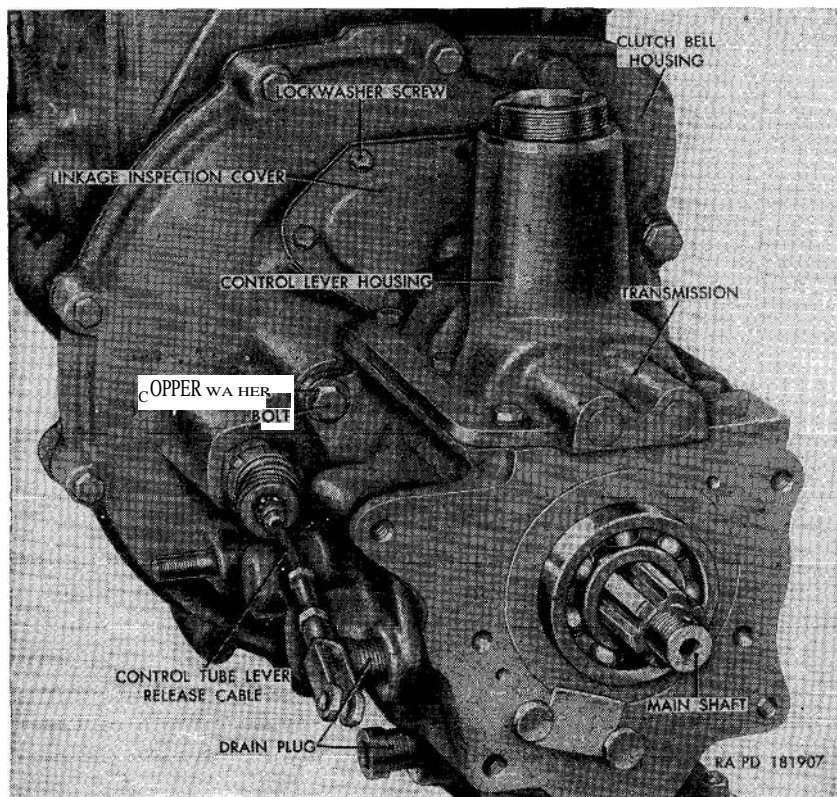
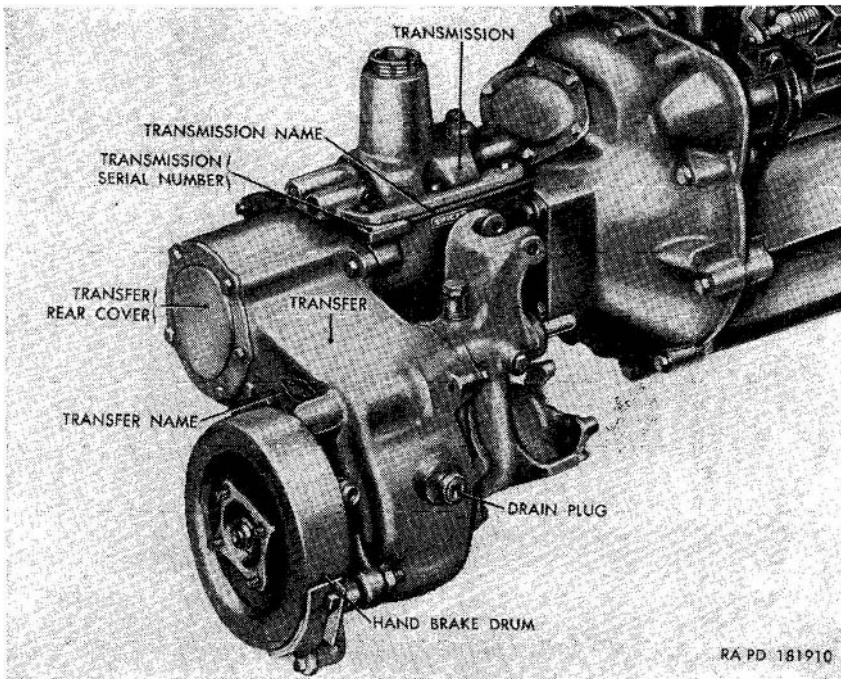

Figure 123. Transmission rear view, transfer removed—power plant removed from vehicle.
Figure 126. Transfer and transmission assemblies installed on engine—power plant removed from vehicle.
a. *Description.* The transmission (fig. 123) is a synchro-mesh, selective-gear-type, with three forward speeds and one reverse. Speed selection is accomplished manually by manipulating the transmission gear shift lever. The lever extends out of the top of the control lever housing into the driver's compartment of the vehicle.
- c. Remove six lockwasher screws securing the linkage inspection covers (fig. 123) to the top of the clutch bell housing. Remove the cover and gasket. Working through the inspection hole, disconnect the control tube lever release cable from the end of the release fork. Disengage the fork from the release bearing carrier and lift the fork out of the clutch compartment. Discard gasket.
- d. While supporting the transmission, remove the four bolts and copper washers (fig. 123) securing the transmission to the clutch bell housing. Pull the transmission straight back until the transmission input shaft is clear of the bell housing.
transmission to the clutch bell housing with four  $\frac{7}{16}$ -inch copper washers and  $\frac{7}{16}$  x  $1\frac{1}{4}$  bolts (fig. 123). Tighten the bolts evenly.
e. Working through the inspection hole in the top of the bell housing, install the release fork so the fork recess engages the bearing cover ball stud, and with the two large ends of the fork behind the release bearing carrier flanges. Engage the control tube lever release cable ball behind the two projections at the small end of the fork. Coat a new linkage inspection cover gasket with plastic-type liquid cement. Place the gasket and the inspection cover in position on top of the clutch ball housing (fig. 123). Secure cover and gasket to bell housing with six  $\frac{1}{4}$  x  $1\frac{1}{2}$  lockwasher screws.
a. *Description.* The transfer is an auxiliary, two-speed gear unit, attached to the rear of the transmission. The transfer transmits power from the transmission to the front and rear differentials through propeller shafts. By manipulation of two transfer gearshift levers (T, fig. 11), additional high and low speed ranges can be selected, and power to the front axle can be connected or disconnected. The hand brake drum (fig. 126) and shoes are mounted on the rear of the transfer. A cover at the rear of the transfer provides access to the interior of the assembly when installing a power takeoff.
- b. Remove the drain plugs from the transmission (fig. 123) and transfer (fig. 126) and permit the lubricant to drain. After draining completely, install the drain plugs.
- c. Remove five bolts and external-teeth lock washers securing the transfer rear cover (fig. 126) to the transfer case. Remove the cover and rear cover gasket. Discard gasket.
e. Coat a new rear cover gasket with plastic type gasket cement and position gasket and transfer rear cover (fig. 126) on the rear of the transfer case. Secure the cover to the case with five  $\frac{3}{8}$ -inch external-teeth **lockwashers** and five  $\frac{3}{8}$  x  $\frac{3}{4}$  bolts.